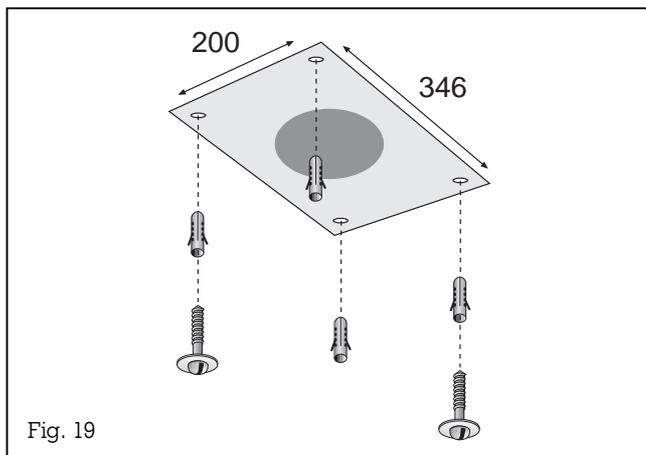

Fig. 19
2. Drill 4 holes  $\varnothing$  8 mm for the wall plugs. Push the plugs flush with the ceiling (Fig. 19).